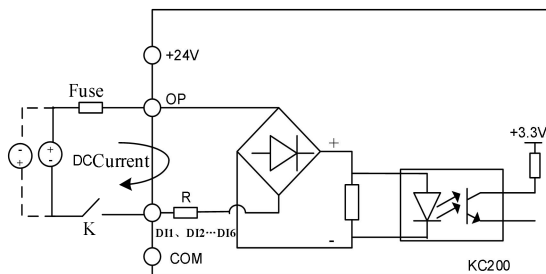

Figure 3-7 Use the connection method of external power supply
- 2) Use an external power supply (the power supply must meet the UL CLASS 2 standard, and a 4A fuse needs to be added to the power supply and interface). The wiring method is as shown in Figure 3-7 (note that the connecting wire between the OP and the 24V terminal is removed).